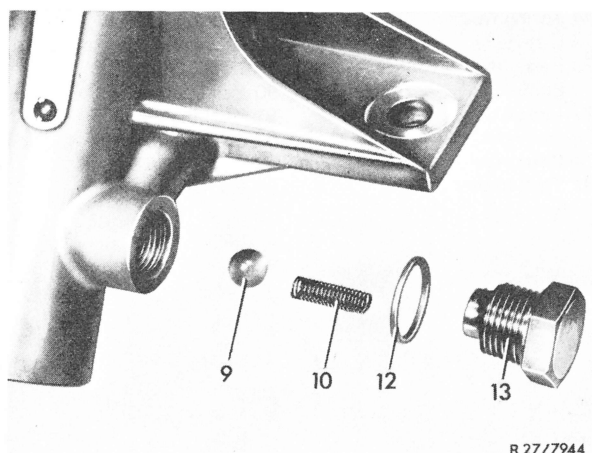

Fig. 8
**11** Remove closing plug (13) together with compression spring (10) and glass ball (9) (Fig. 8).
**21** Screw-in closing plug (13) with spring (10), as well as glass ball (9) and new sealing ring (Fig. 8).